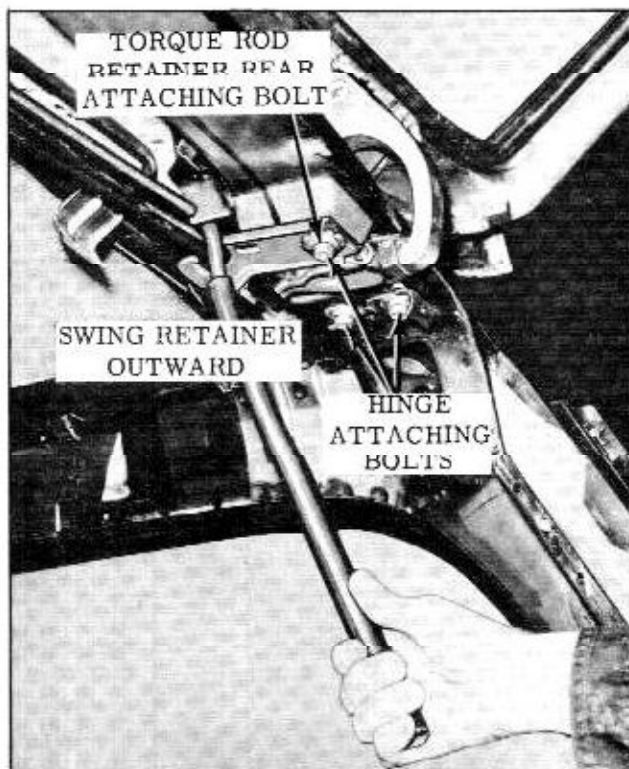

Fig. 15-52 Back Door Hinge & Torque Rod Removal
4. Using a suitable length of pipe over end of torque rod, release tension of torque rod from retainer. While tension of torque rod is released from retainer, remove retainer front attaching bolt and loosen (no more than 2 turns) retainer rear attaching bolt; then, swing front end of retainer towards outside of body and release torque rod. (Fig. 15-52)